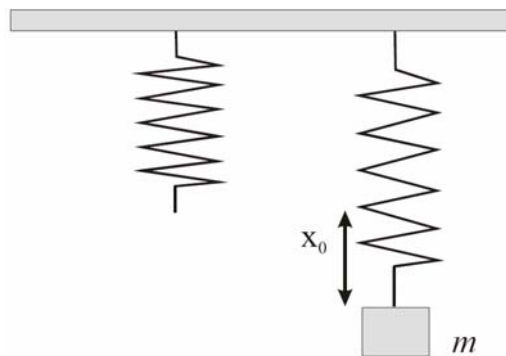

Fig. 1. A mass on a spring in the gravitational field of Earth
1. Show by using Hooke's Law that a stationary mass m hanging from a spring with constant k (Fig. 1) stretches the spring to a new equilibrium position $x_0 = \frac{mg}{k}$.
2. Confirm by substitution that Eq. (7) indeed solves Eq. (6).
3. Show that when $\beta = 0$ (no damping), Eq. (7) reduces to Eq. (3).
We will next consider the case of a mass attached to a spring as shown in Fig. 1.